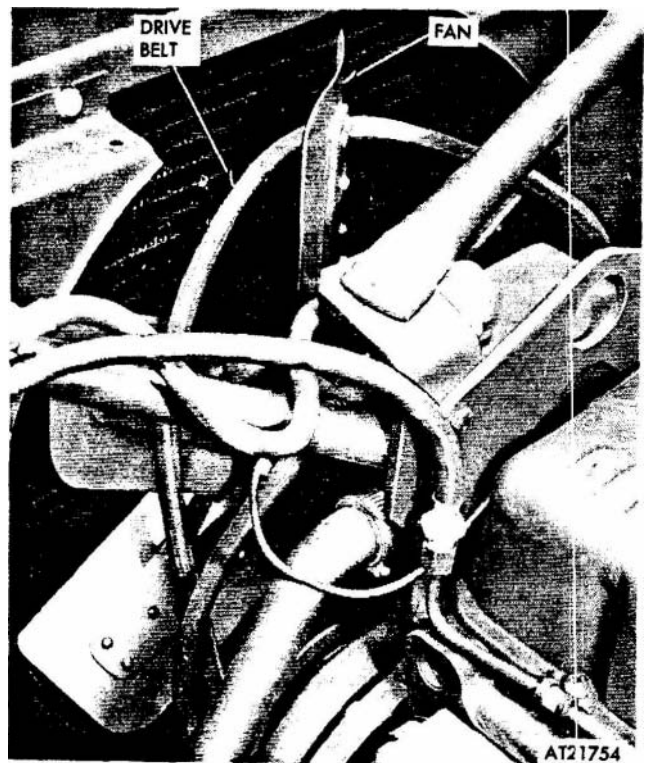

Figure 2-102. Fan drive belts.
- (3) Loosen bolt on alternator adjusting strap and move alternator toward engine to relieve tension on bolts. Remove belts from fan, alternator, and crankcase pulleys (fig 2-102).
- (4) Rotate fan until a blade *is* centered in opening between the two shrouds. Lift belts over fan blade toward radiator. Repeat procedure until belts are in front of fan. Lift belts up through opening in shrouds.
(1) Open and secure engine cover (refer to TM 9-2320-242-10).
(2) Partially drain coolant to a level below thermostat housing (refer to para 2-70c).
(3) Remove fan from hub assembly by removing four bolts and lock washers (fig 2-102).